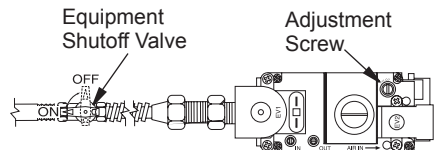

Figure 37 - Turning Equipment Shutoff Valve to the OFF Position
6. Turn equipment shutoff valve clockwise  to the OFF position (see Figure 37). Do not force.
7. Wait five (5) minutes to clear out any gas. Then smell for gas, including near the floor. If you smell gas, STOP! Follow "B" in the safety information, above. If you don't smell gas, go to the next step.
- Turn the adjustment screw marked PILOT clockwise to decrease or counterclockwise to increase the flame to proper size (see Figure 37, page 19). Do not remove the adjustment screw.